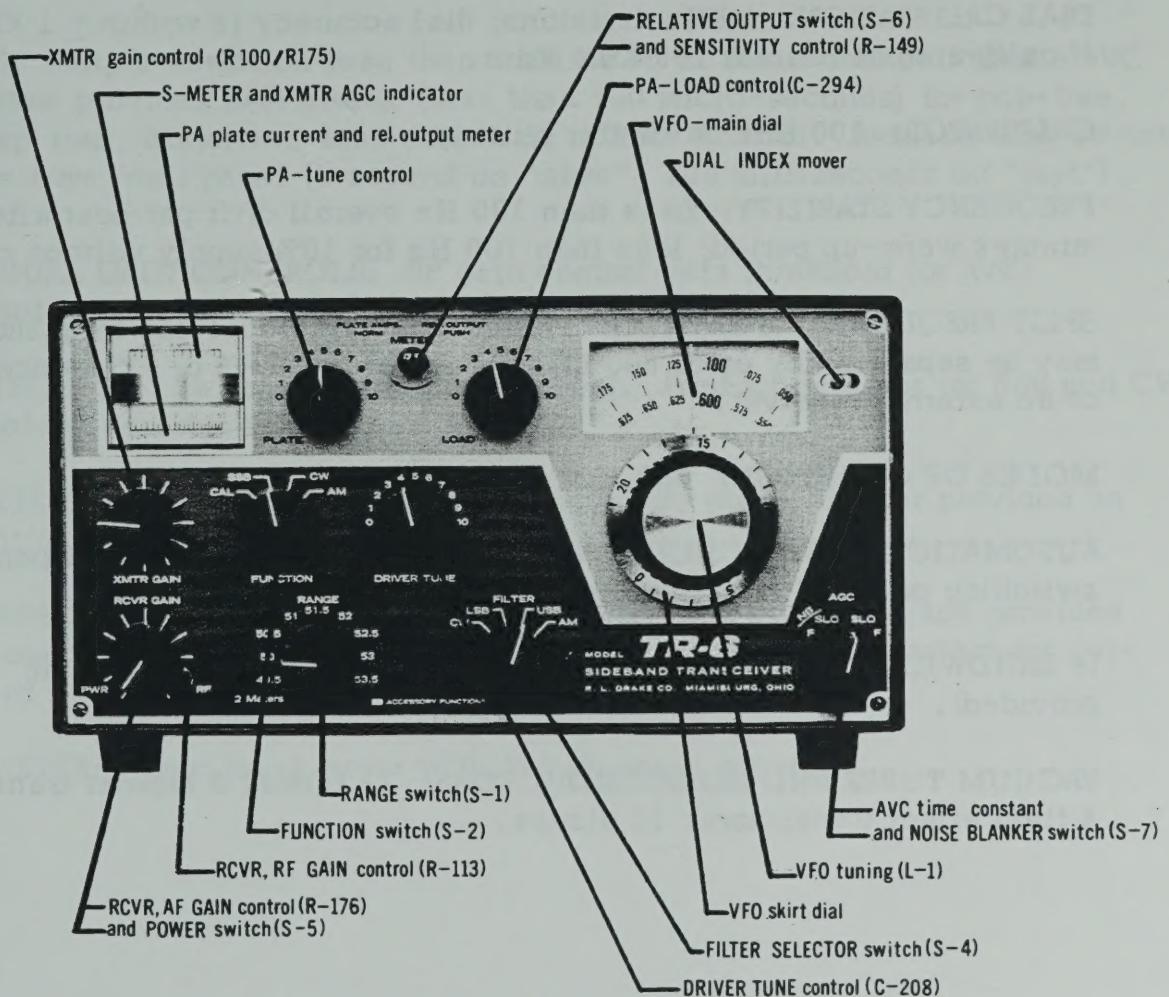

FIG.1-FRONT VIEW
A. FRONT PANEL CONTROLS (see figure 1)